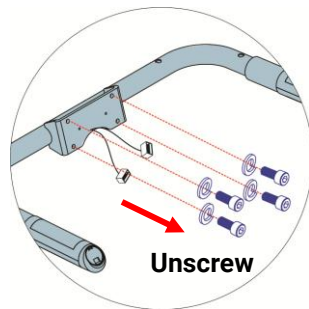

Fig 2.5-10A
- 1) Unscrew (4) the pre-locked screw and (4) S washers on the lower handlebar. (Fig 2.5-10A)